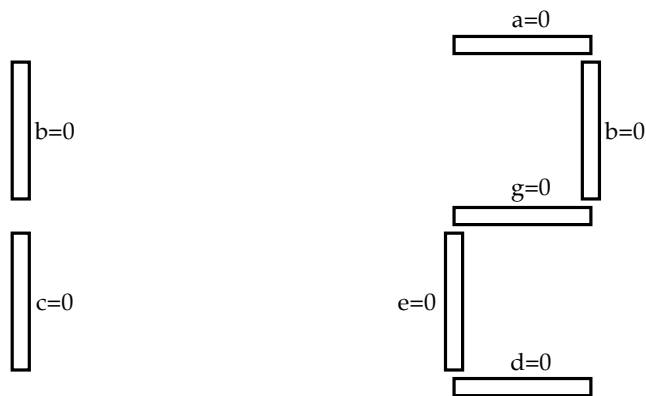

Fig. 2.1.2: Pictorial representation of Table 2.3.1.
2.3. Modify the above program using Table 2.3.1 and Fig. 2.1.2 to display 0-9.